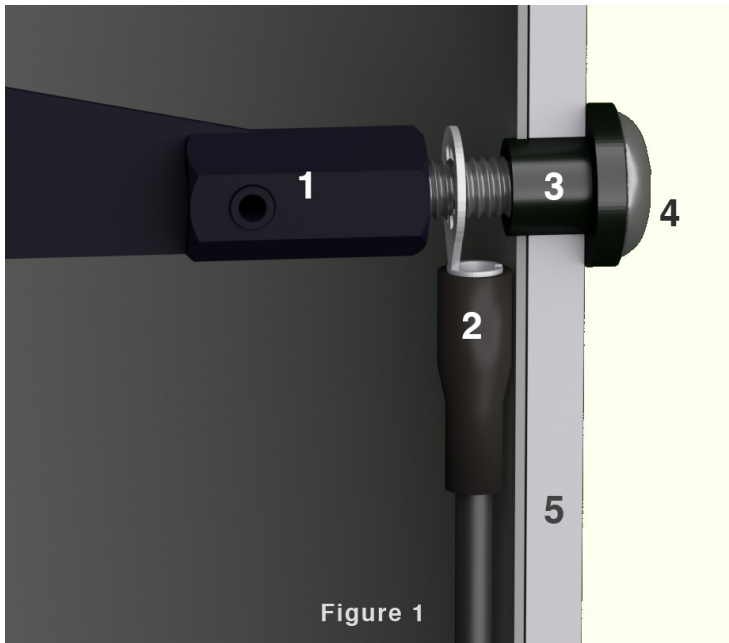

Figure 1
**Important!** If you're installing a heated Protostar spider into a metal tube, you must use the supplied insulation bushings shown below in Figure 1. *Failure to do this will lead to a short circuit and possible damage.*
Figure 1 shows the recommended scheme for connecting power when installing into a metal tube, and illustrates how to use the insulation bushing (item 3). The bushing is not needed when installing into a non-conducting tube or cage material (wood, cardboard, fiberglass, plastic, etc.).